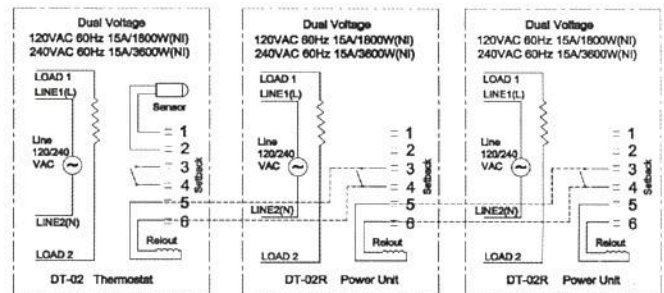

fig.4
- Connect the floor sensor wire into terminals 1 & 2 behind the power board and tighten the screws with the screwdriver provided in the box. fig.4
- If needed, connect an auxiliary power module into terminals 5 & 6 of the thermostat for remote control. See drawing below. fig.4